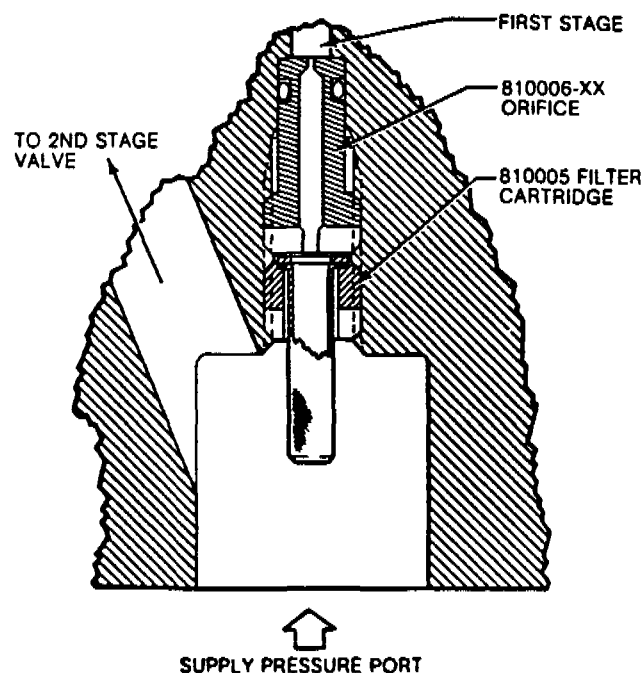

FIGURE 3. FILTER CARTRIDGE REMOVAL
4. Using the special wrench 820000TF3-1 remove filter cartridge. See Figure 3.
The pilot supply pressure should be approximately 450 psi. This pressure is established by placing an orifice between the servovalve supply pressure and the pilot valve. The orifice, part number 8100006, is located under the filter shown in Figure 3. Table 2 shows the color coding, the dash number and the servovalve supply pressure range recommended for each particular orifice. It is important that the proper orifice be selected for the system pressure being applied to the servo. Improper orifice selection may over pressurize the pilot or result in very sluggish performance. To check or change the orifice, remove the filter as described in maintenance section. The top of the orifice should be visible when the filter is removed. It can be removed with a small blade screwdriver.